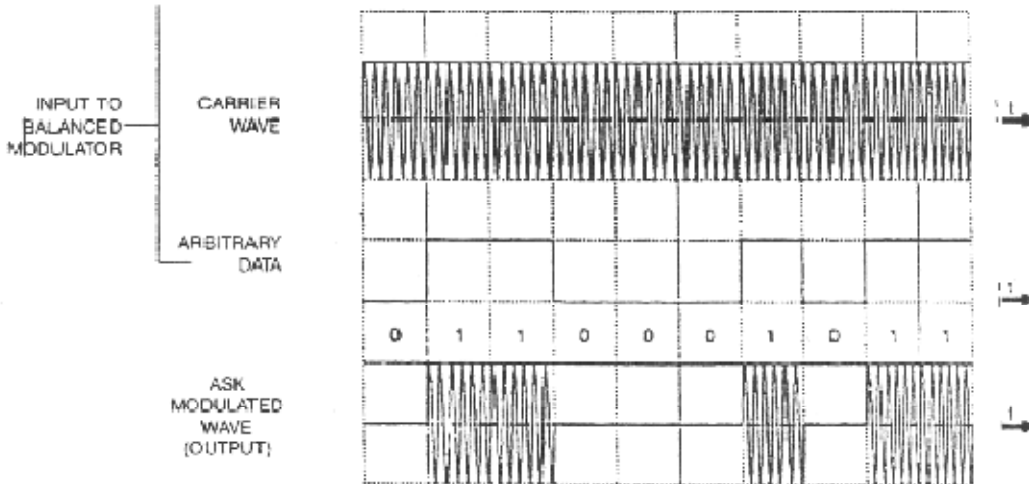

Figure 1: ASK Waveform
1. Use the other trace of your oscilloscope to observe the biphas (Manchester) waveform at (TP8) of **ST2106**. This is identical to the waveform shown in figure1.